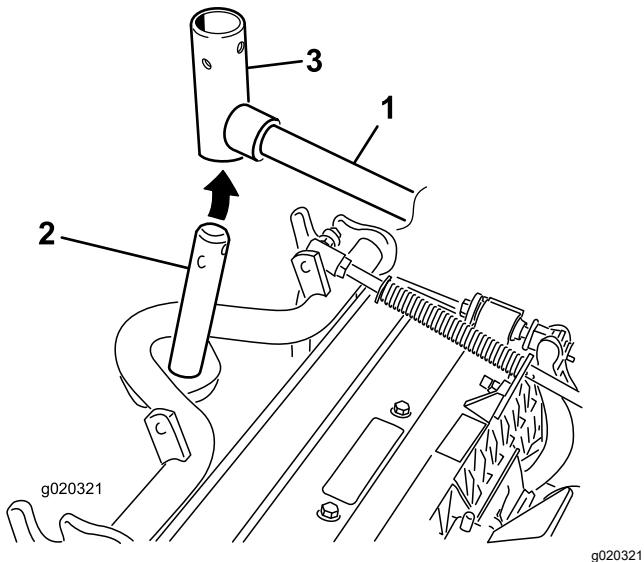

Figure 10
- For the front cutting units, slide a cutting unit under the lift arm while inserting the carrier frame shaft up into the lift-arm pivot yoke (Figure 10).
- Insert the lift-arm yoke onto the carrier frame shaft (Figure 10).